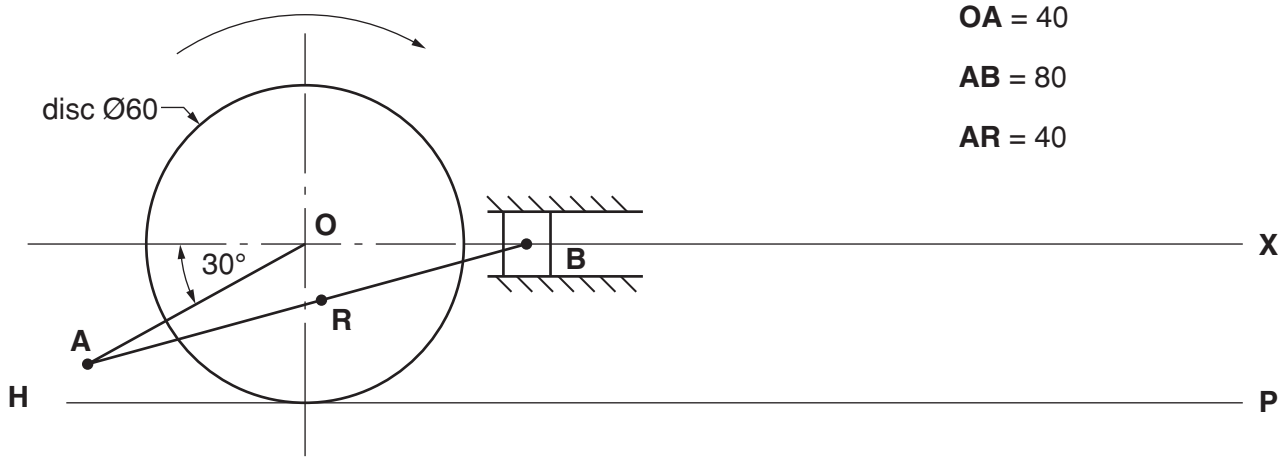

Fig. 3
- 3 Fig. 3 shows the outline of a mechanism, in which a circular disc rolls without slipping along a horizontal plane **HP**. The link **OA** is rigidly attached to the circular face of the disc. **A** is pin jointed to the link **AB**, which is constrained at **B** to slide along **OX** which is parallel to the horizontal plane.